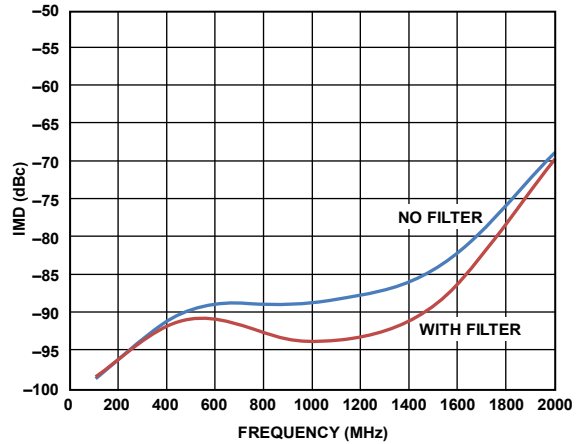
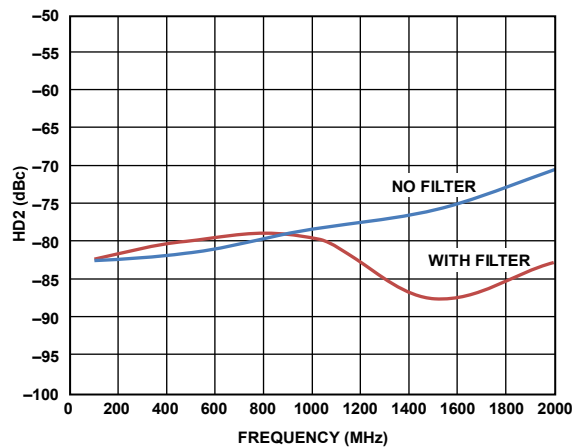
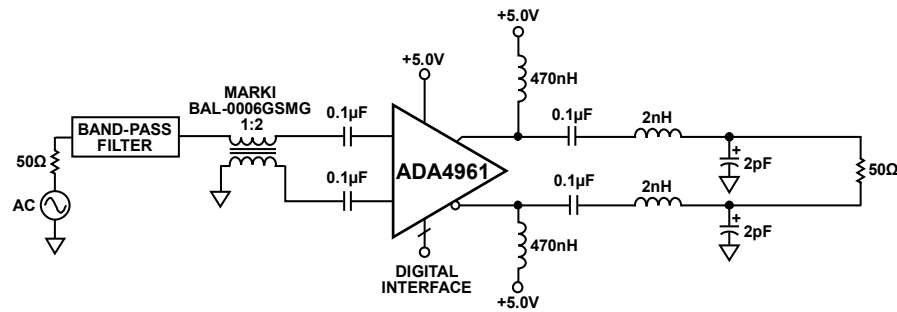

Figure 46. IMD vs. Frequency, with and Without LC Filter
Figure 47. HD2 vs. Frequency, with and Without LC Filter
Figure 49. ADC Interface Circuit Using a Low-Pass Antialias Filter
The high frequency distortion performance of the ADA4961 can be enhanced by adding a low-pass filter to the output (see Figure 46 and Figure 47). A two-pole low-pass filter is used in the ADC Driving section to illustrate the distortion improvement capabilities and integrated noise reduction. Figure 49 shows a simplified diagram of a two-pole low-pass (LP) filter. The inductor capacitance (LC) values are 2 nH and 2 pF, respectively. This filter gives an overall -3 dB BW of 2 GHz when connected to the ADA4961. Ideally, the BW is 3.5 GHz without any parasitics. The parasitic, C, (about 1 pF) across the 2 nH inductor (not shown) reduces the BW to about 2.1 GHz.